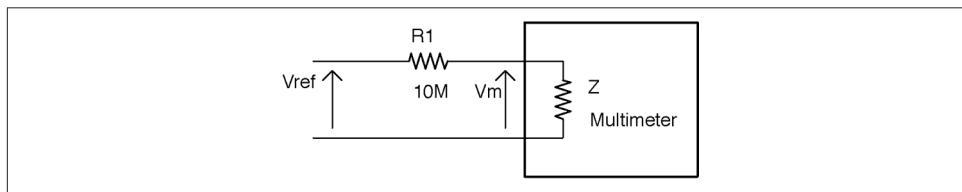

Figure 21-7. Finding the Input Impedance of Your Multimeter
You can determine the input impedance of your multimeter using the schematic in Figure 21-7.
To determine the input impedance of your multimeter (Z in Figure 21-7):
2. Now place a resistor in series with the positive multimeter leads as shown in Figure 21-7 and see what voltage the meter reads now (Vm). If there is little or no change in the reading, then try a higher-value resistor (say $100\text{M}\Omega$) and congratulations you have a high-quality multimeter.
3. Calculate the impedance of the meter (Z) using the formula: